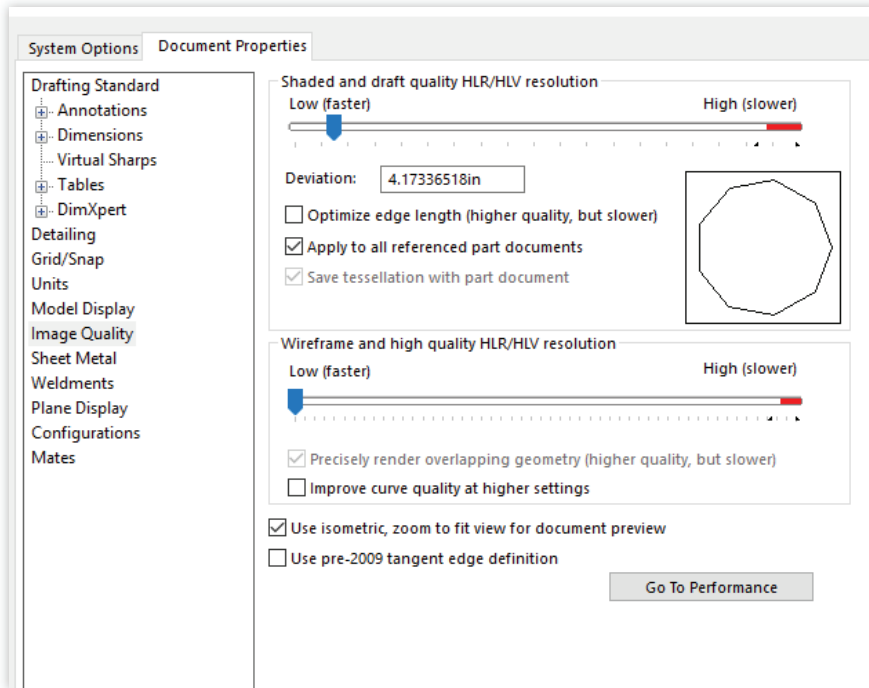

Fig. 29
6. Select the **Document Properties** tab. Then, select the **Image Quality** page. Reduce the quality in both sections to speed up performance. Check the **Apply to all referenced part documents** box. See Fig. 29.